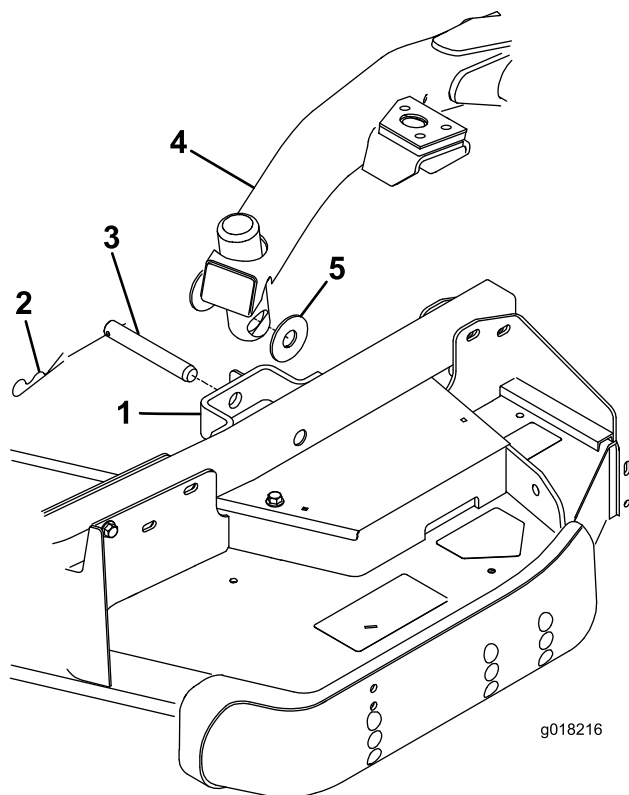

Figure 26
4. Press the lift switch forward to the Float position. Push a lift arm down until the holes in the lift arm line up with the holes in the castor arm bracket and the height of cut rod can be inserted into the lift arm pads (Figure 26).
5. Secure the lift arm to the castor arm with 2 thrust washers, a clevis pin and a hair pin cotter. Position the thrust washers between the lift arm and the castor arm bracket (Figure 26). Insert end of cotter pin into the slot in the castor arm tab to retain cotter pin.